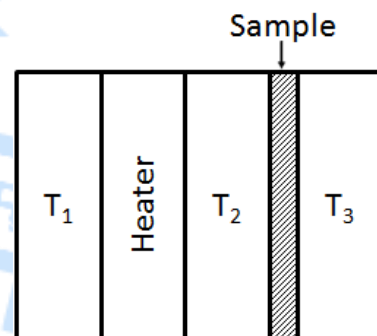

Fig.1: Schematic design of a Lee's disc
The electrically heated Lee's disc apparatus for the measurement of thermal conductivity of an insulating sheet is shown schematically in Fig. 1, in which, a disc shaped heater is placed between two identical copper discs (1 and 2) and a thin disc of the insulating sample of thickness (t_s) is placed between the identical copper discs (2 and 3). All the discs, heater and the sample have nearly equal radii. At steady state, the quantity of heat flow through the bad thermal conductor is equal to the heat radiated from the Lee's disc (Disc 3). The exposed surface areas of the discs are A_1, A_2, A_3 , and those of the heater and sample are A_h and A_s , respectively. T_1, T_2 , and T_3 represent the measured temperature (using thermocouples) of Disc 1, Disc 2, and Disc 3, respectively.
3. Place the disc aligning tray in between and parallel to the two rods at the base of the metallic stand. Sequentially arrange *Disc 1*, heater, *Disc 2*, sample, and *Disc 3*, as shown in *Fig. 1*, so as to form a cylindrical assembly and place this assembly on the disc aligning tray. Rotate the discs and the heater to bring the radial holes and the heater wire on the upper side and nearly aligned along a horizontal line.